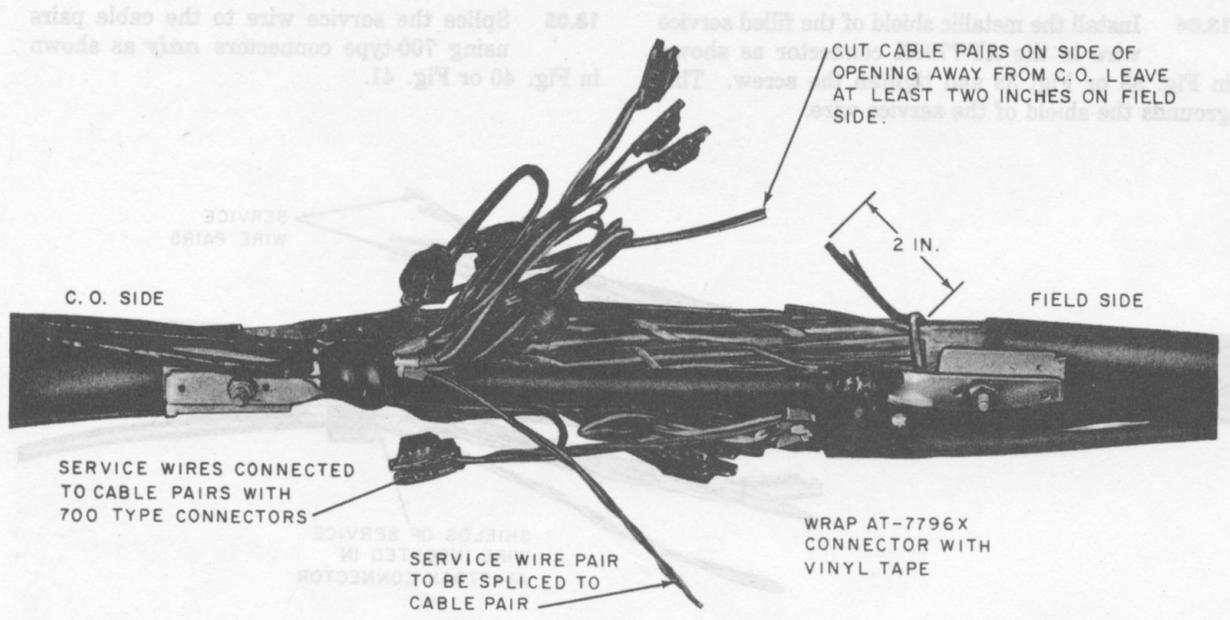
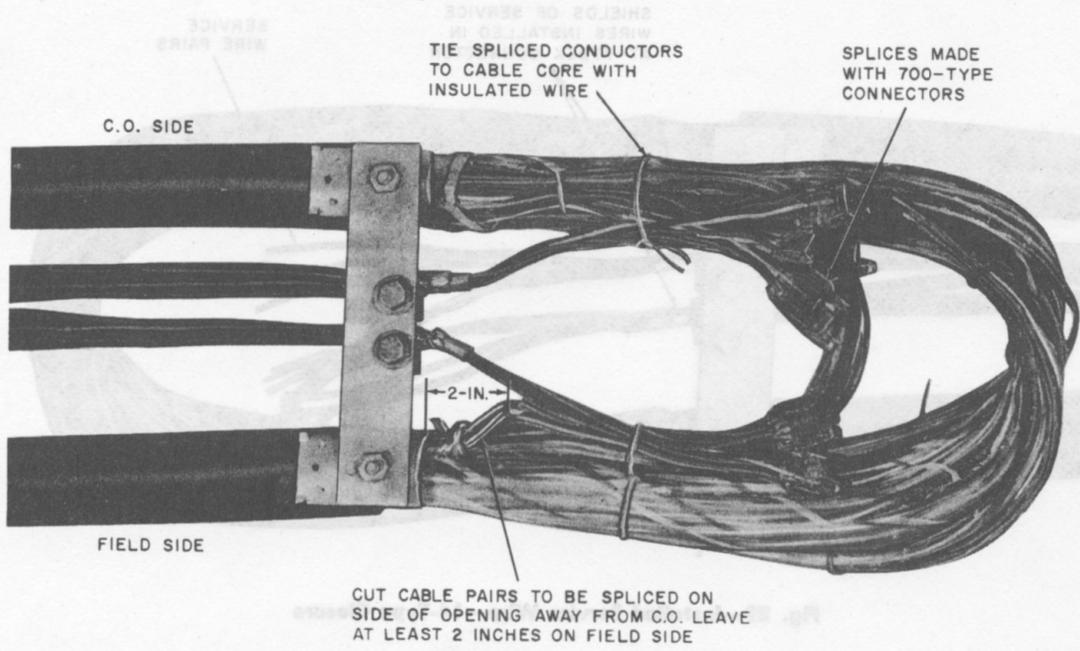

Fig. 40—Splicing Cable Pairs—13-Type Closure
Fig. 41—Wire Work Complete—14-Type Closure
13.05 Splice the service wire to the cable pairs using 700-type connectors *only* as shown in Fig. 40 or Fig. 41.